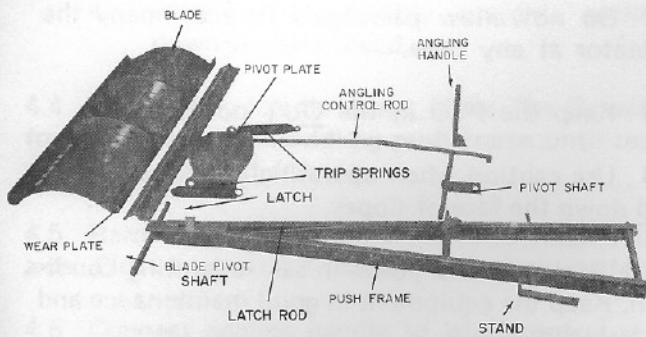

fig 2
2.2 Lay blade down as in figs 2 and 3. Fasten wear plate to blade with carriage bolts, flat washers, lock washers and nuts. Put bolts through wear plate then blade; flat washer, lock washers and nuts go over slots in blade as in figs 1 and 3.
2.10 Move to center of push frame. Slide pivot shaft (end with small hole) through crossmember of push frame, Item 23 and figs 2 and 5. Secure with flat washer and cotter pin, Items 17 and 38.
2.11 Connect angling control rod to pivot shaft with flat washer and hairpin cotter, Items 10, 11 and 12 and figs 2 and 5.